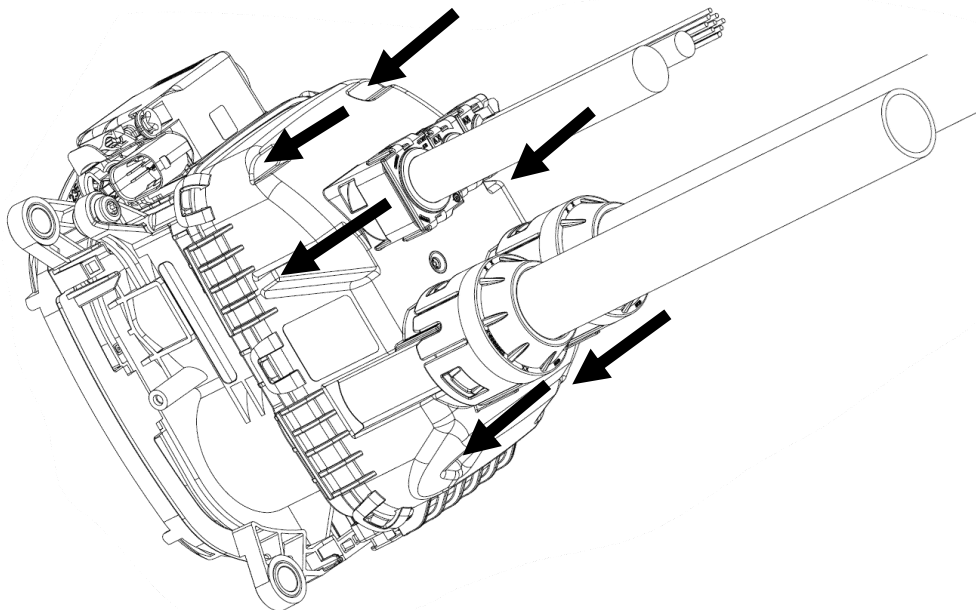
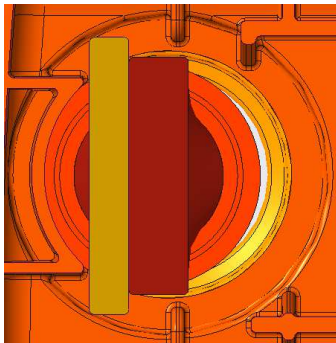

Figure 33
Figure 33a
Mount the COVER, CABLE EXIT, 120 mm2, 2390858-1 w/o AC or 2390858-2 with AC to the CHARGE INLET HSG, COMBO 2, ASSY, 2401362. Ensure that all 6 hooks are correctly engaged. The press forces must be applied on the marked locations close to the latches, see Figure 33.
**ATTENTION:** The COVER, CABLE EXIT, CCS2, 120 mm2, 2390858 needs to be aligned properly over the inlet and pushed vertically into position to make sure the seal slips correctly seated all around (Figure 33).
For the proper alignment, pay attention to the anti-rotation features implemented in the COVER, CABLE EXIT, 120 mm2, 2390858-1 w/o AC or 2390858-2 with AC. So that the PIN, DIA8.0, WELDING 180 DEG, 2390840-2 orientations are dictated by those features. See orientation on Figure 33 and the anti-rotation features on Figure 33a and 33b illustrated.